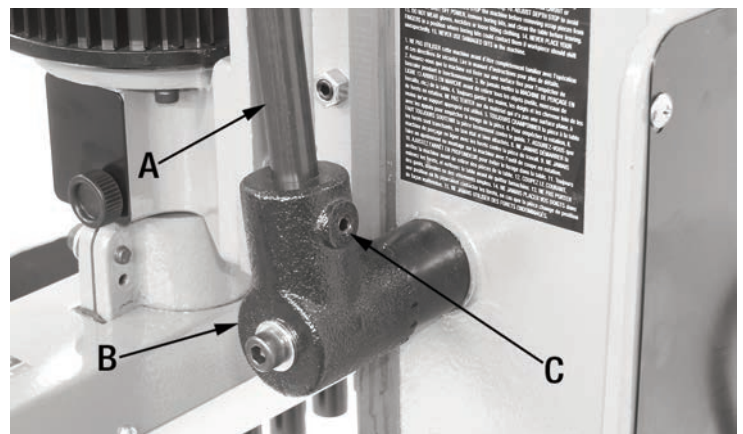

FIGURE 7
1. Insert the feed handle (A) Fig.7 into the handle body (B) by loosening the set screw (C) and mounting the handle. Retighten set screw.